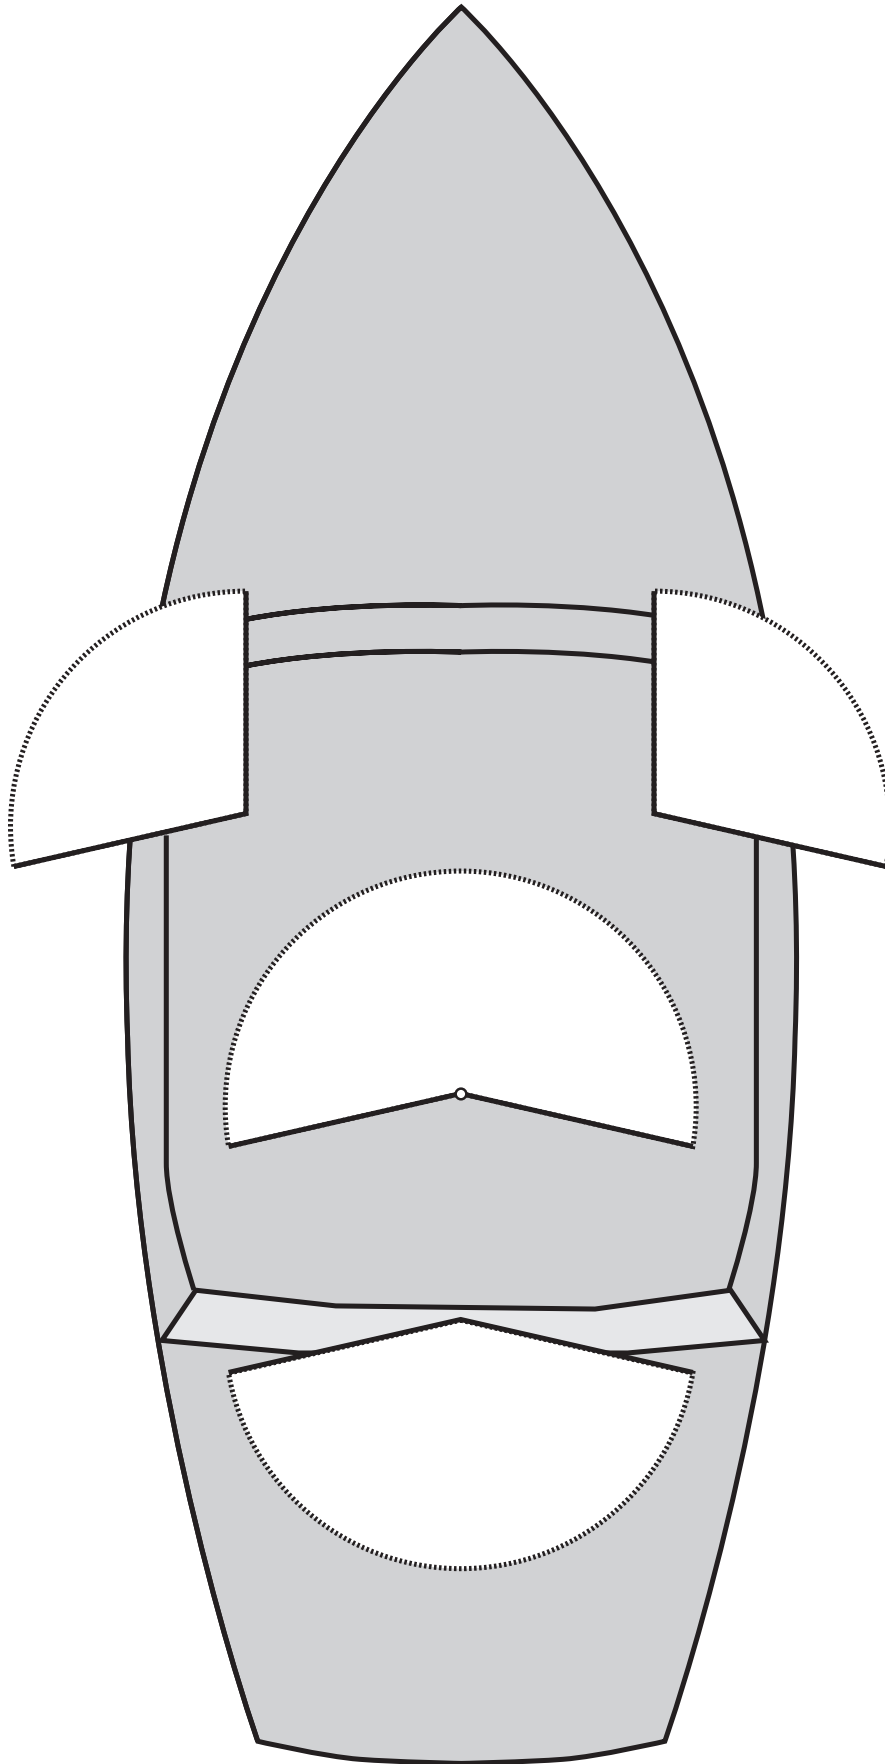

Figure 30.2 Model boat. Students may make one copy of this page so that they can attach their answers before handing in for marking.
- Trace out a copy of the model boat as shown in Figure 30.2 and use it to colour in the definitions of lights.